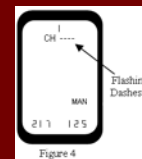

Figure 4
- Select the collar you want remove by pressing the **Λ** or **V** button until the desired frequency is at the bottom of the screen. Press the **MODE** button, the screen will display a "CH" followed by 4 numbers. The frequency to be deleted should be displayed at the bottom of the screen. Press the **V** button until four flashing dashes are displayed after the "CH." Press **ENTER** twice. (See Figure 4)